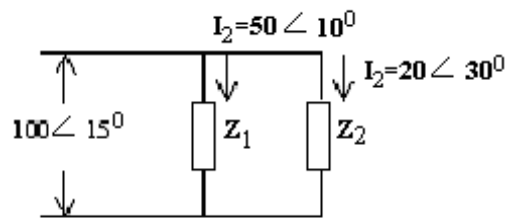

Figure 3b
- (b) For the circuit shown (figure 3b), determine the true power, reactive power and apparent power in each branch. What is the power factor of the total circuit? [4+12]